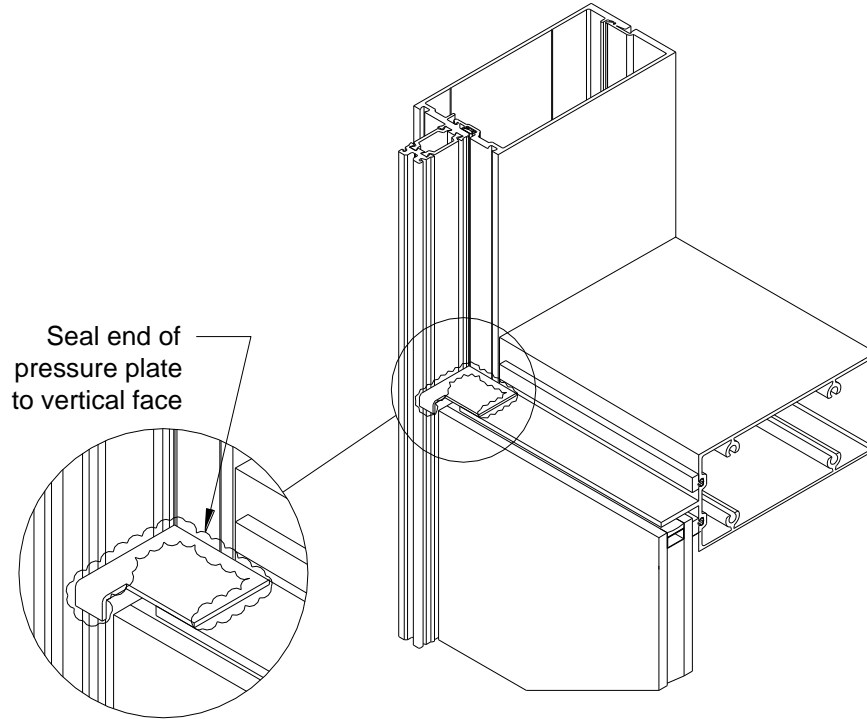

Figure 45: Zone Plug at SSG Horizontal
- 18.3 Place zone plug, set in sealant as shown on **FIGURES 45 & 46**.